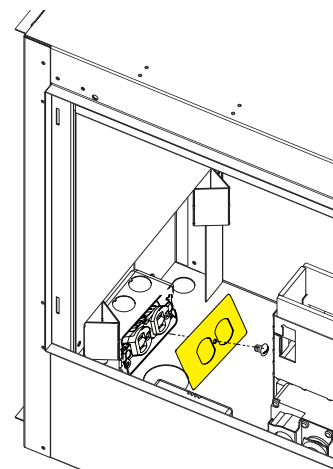

Figure 31
7. Install the Junction box cover. **See Figure 31.**